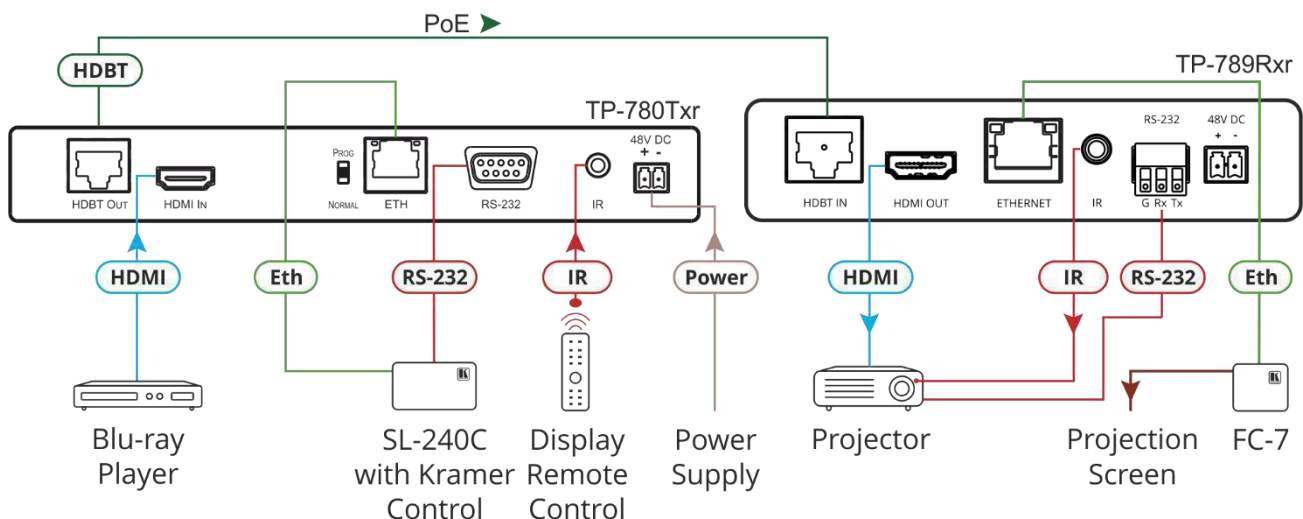

Figure 7: Connecting **TP-789R/TP-789Rxr** as PoE Acceptor
To connect the TP-789R/TP-789Rxr as illustrated in the example in Figure 7:
2. Connect the HDMI OUT Connector (22) on the **TP-789R/TP-789Rxr** rear panel to the HDMI acceptor (for example, a projector).
- a. Connect the RS-232 Terminal Block Connector (25) on the **TP-789R/TP-789Rxr** rear panel to the HDMI acceptor.
- b. Connect the IR 3.5mm Mini Jack Connector (24) on the **TP-789R/TP-789Rxr** rear panel to the HDMI acceptor via an IR emitter cable.
6. Connect the HDBT OUT RJ-45 Connector on the **TP-780Txr** rear panel to the HDBT IN RJ-45 Connector (21) on the **TP-789R/TP-789Rxr** rear panel.
7. Connect a LAN-enabled device (for example, **FC-7** control gateway) to the Ethernet Connector (23) on the **TP-789Rxr** rear panel.
8. Connect the power adapter to the 48V DC Power Terminal Block on **TP-780Txr** rear panel and to the mains electricity (not shown in Figure 7).